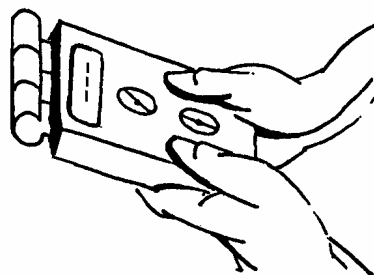

Fig. 1
In this case quickly switch the upper control to **SETTINGS CHECK**. The LCD will display the density and thickness set during the previous measurements (e.g. 0.56 and 42). Hold the device in the air (fig. 1), switch the upper control knob to **MEASURE**. The device will calibrate automatically (the display shows - - -). The end of calibration is indicated by the number 4.0 (the lower range limit) displayed on the LCD. The device is ready for measurements.
- hold the instrument in the air (fig. 1) and set the upper control knob to MEASURE. The device will calibrate automatically (the display shows - - -). The end of calibration is indicated by the number 4.0 (the lower range limit) displayed on the LCD. The device is ready for measurements.